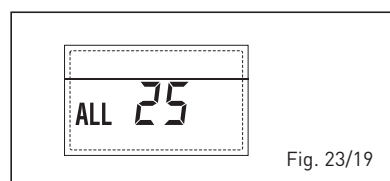

Fig. 23/19
– **AUXILIARY SENSOR ANOMALY (S3) “ALL 26” (fig. 23/20)**